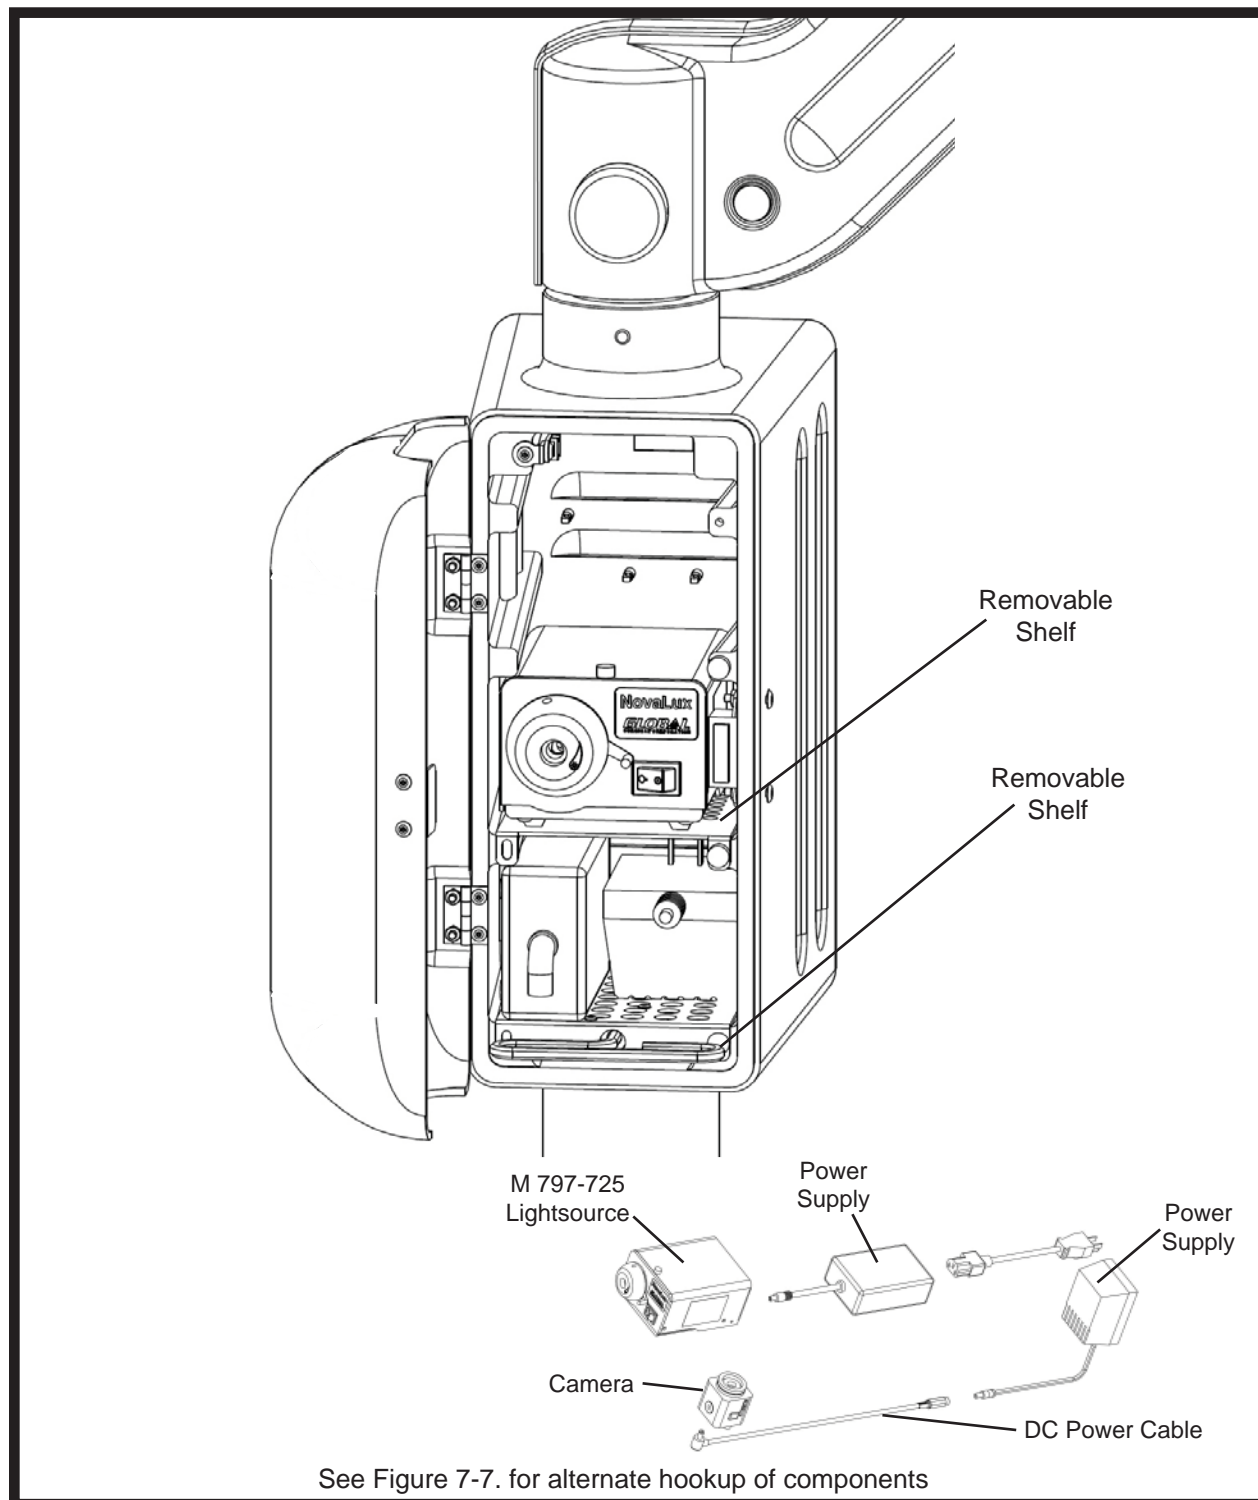

Figure 7-3. Lightsource Housing with One M 797-725 Lightsource, and M 517N Color Video Camera Power Supply
The configuration used in Figure 7-3 shows the usage of one (1) M 797-725 NovaLux Lightsource, and one M 517N Color Video Camera. The schematic at the bottom shows the cable hookup. .